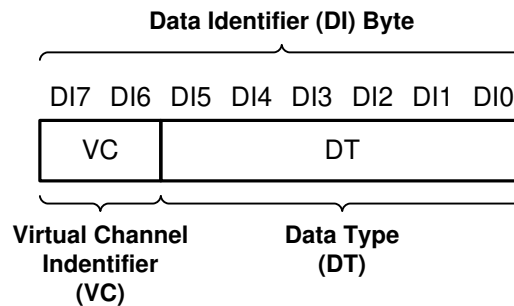

図 7-9. CSI-2 Data Identifier Structure
The TDES960 MIPI CSI-2 protocol interface transmits the data identifier byte containing the values for the virtual channel ID (VC) and data type (DT) for the application specific payload data, as shown in 図 7-9. The virtual channel ID is contained in the 2 MSBs of the data identifier byte and identify the data as directed to one of four virtual channels. The value of the data type is contained in the 6 LSBs of the data identifier byte. When partnered with the TSER953 serializer, the Data Type is passed through from the received CSI-2 packets. When partnered with a DVP Mode serializer, the received RAW mode data is converted to CSI-2 Tx packets with assigned data type and virtual channel ID.